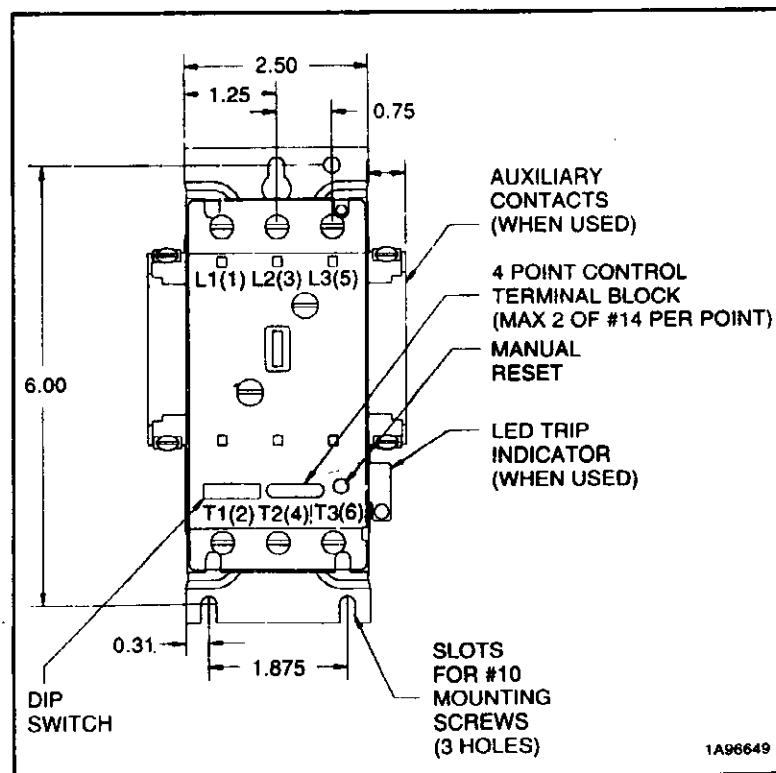

Fig. 2 Size 1 and Size 2 Mounting Dimensions (in inches)
1. Attach the contactor or starter to the mounting surface with #10 screws. See Figure 2.